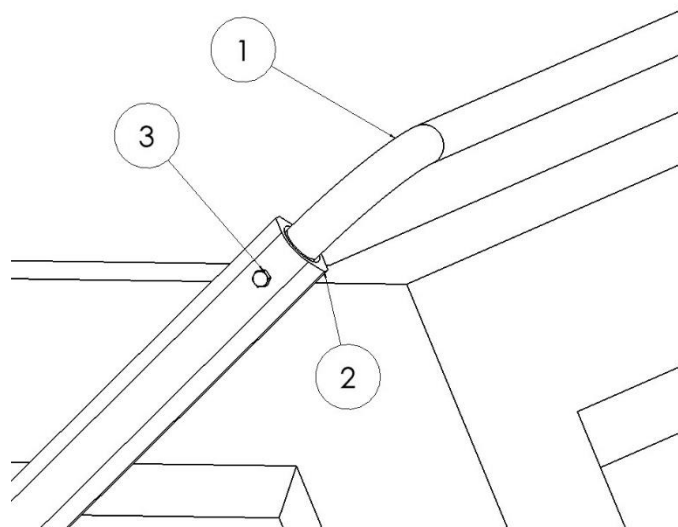

Figure 4.1
Insert the single piece cross tube (1) into the free ends of the lower arms (2). While the cross tube is inserted in the arms drill a 5/16" hole through the arm and cross tube on both sides of the truck. Secure the cross tube to the arms using a 5/16" x 2-1/4" hex bolt (3) and 5/16" hex nut. (Figure 4.1)